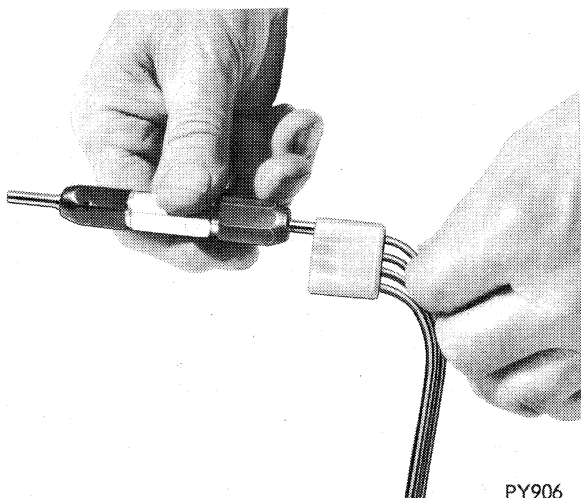

Fig. 9—Removing Wire Terminals
(5) Remove wiring trough from steering column by unsnapping retainer clips.
(6) Position gearshift lever to its full clockwise position and if equipped with Tilt steering column position it at its mid-point.
(7) Disconnect speed control switch wiring harness connector and remove terminals from insulator with Tool C-4135, (Fig. 9).
(8) Remove turn signal lever attaching screw.
(9) Gently remove lever and harness from column, taking care not to damage any wires, while pulling wires up through column.